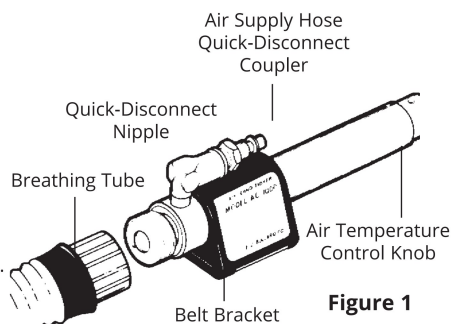

Figure 1
- To obtain cooler air, turn the air temperature control knob counterclockwise (Figure 1).